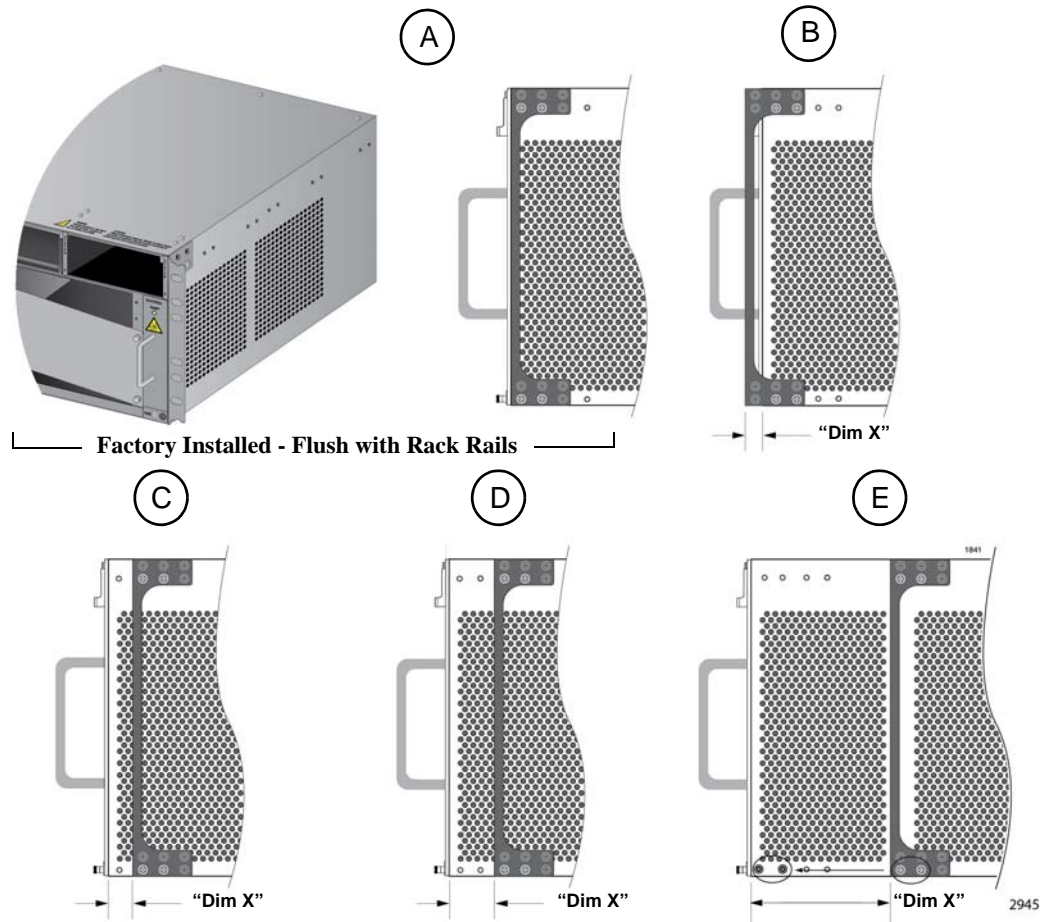
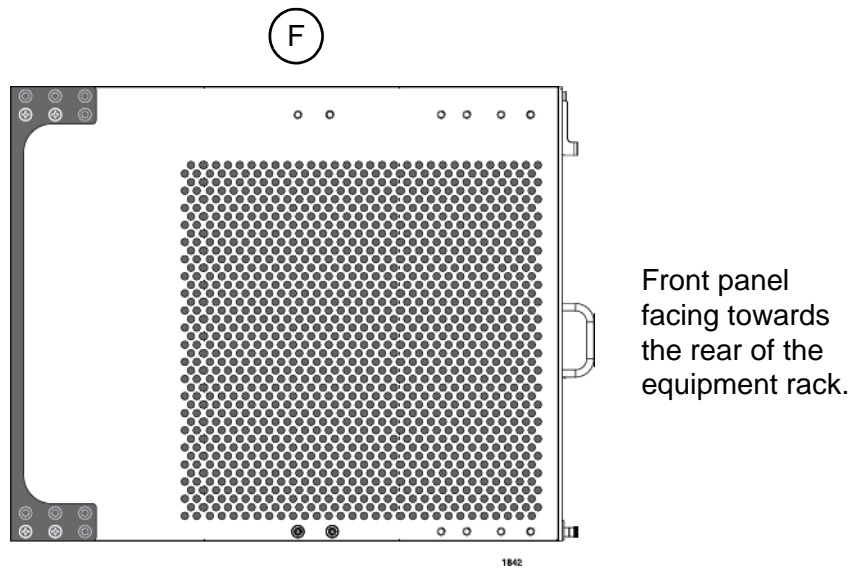

Figure 40. Rack Mounting Bracket Locations
Figure 41. Rack Bracket Locations for Reverse Position of Chassis
You adjust the brackets by removing them and re-installing them in different positions on the sides of the chassis. The bracket positions are listed in Table 29 and illustrated in Figure 40 on page 115 and Figure 41 on page 115. Please review the following information before moving the brackets:
- ❑ To install the rack mount brackets in position “E,” you have to remove the two chassis screws from the bottom-middle section of the chassis and re-install them in front where the rack mount bracket screws were originally, as shown in Figure 40 on page 115.
- ❑ The dimension (X) between the front panel and the rack rails is given for each rack mounting bracket position in Table 29.